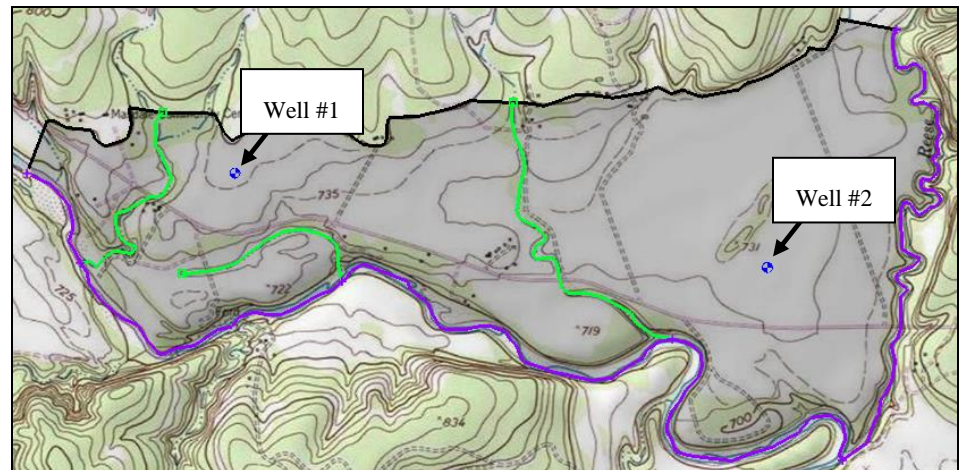

Figure 7 Location of the wells
1. Using the **Create Point**  tool, create a point at the approximate location of Well #1 in Figure 7.